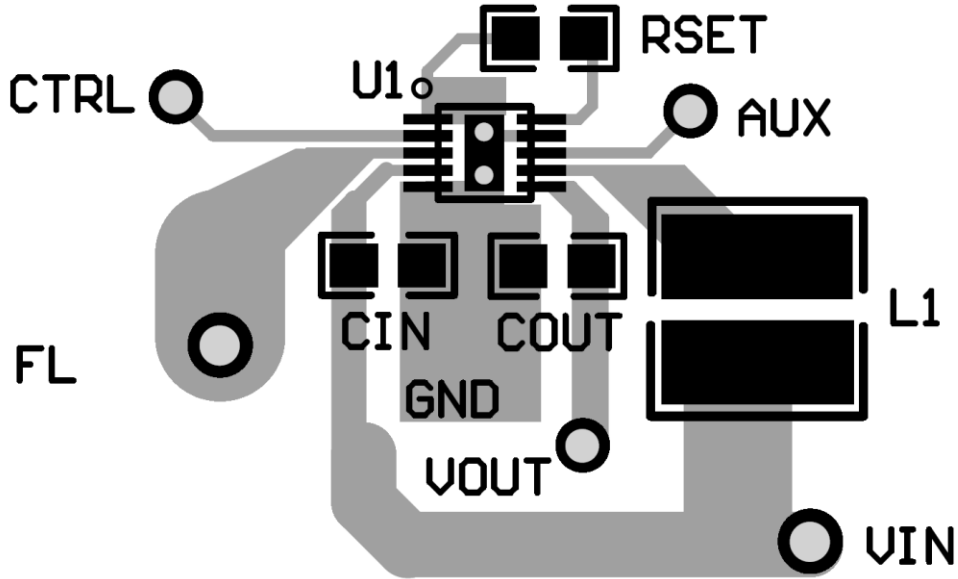

Figure 6. Recommended PCB Layout
A recommended PCB layout is shown in Figure 6. In order to dissipate the package heat, the package center pad (MC) must be connected to a large copper area on the bottom side through multiple via.